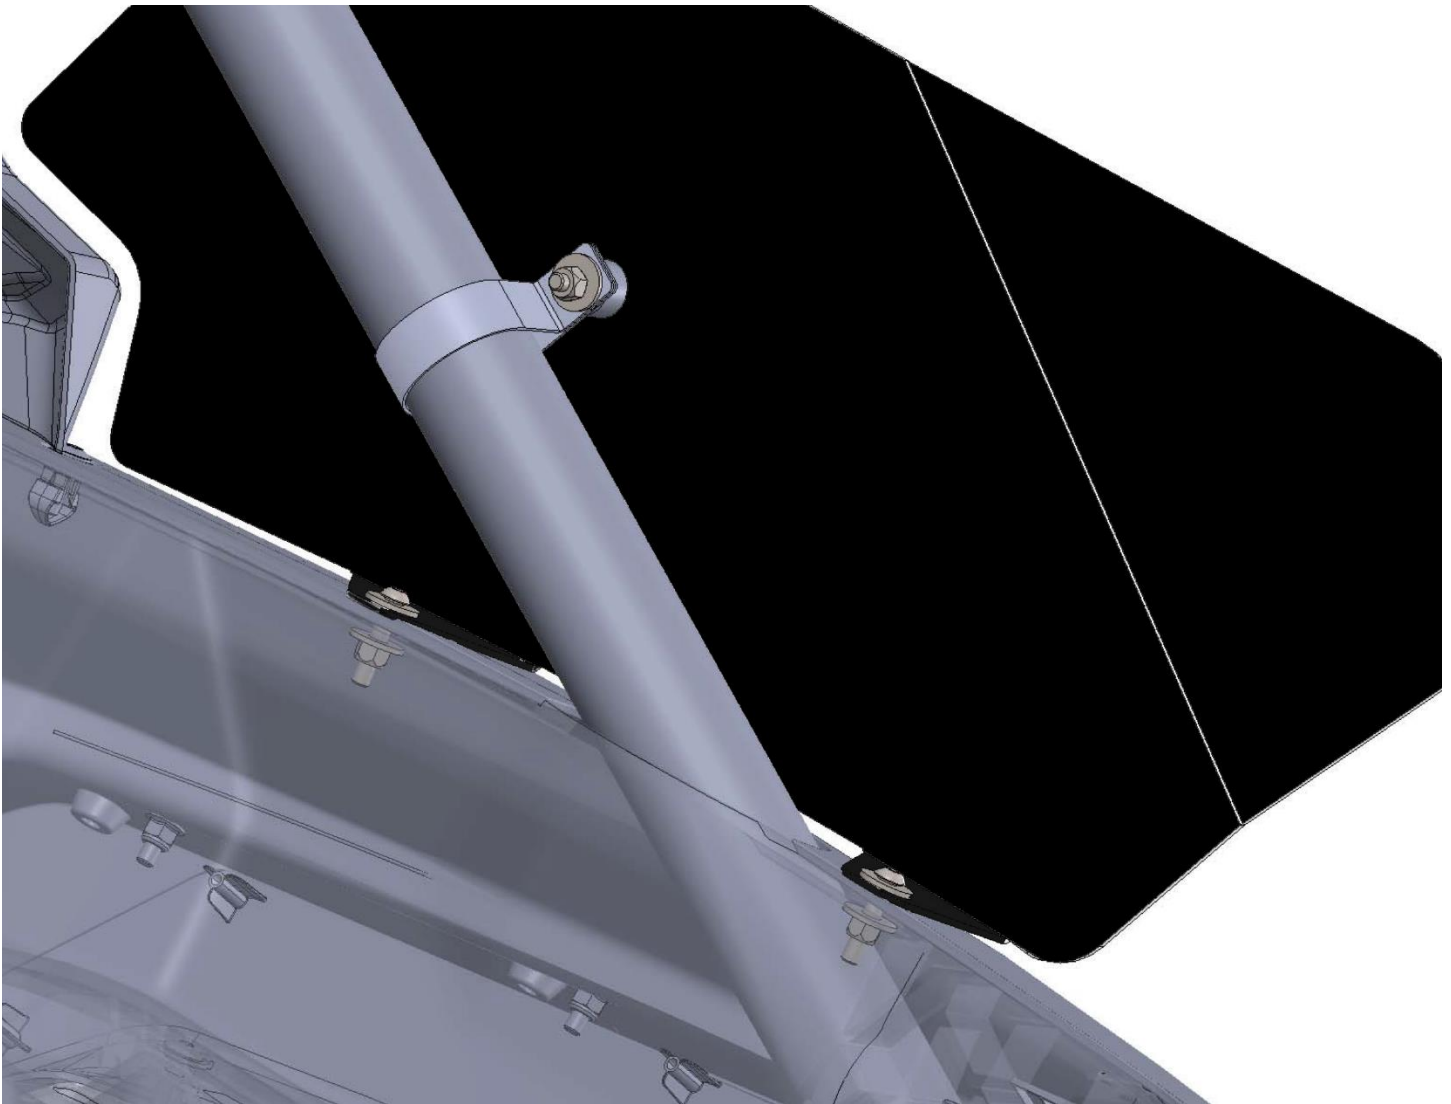

Figure 2-1
2. Set number plate in place and attach by using an M6x1.0x30 bolt with an M6 large washer on top and on bottom of plastics with an M6 nylon locknut on bottom. Hand tighten only at this time.(fig. 2-1)